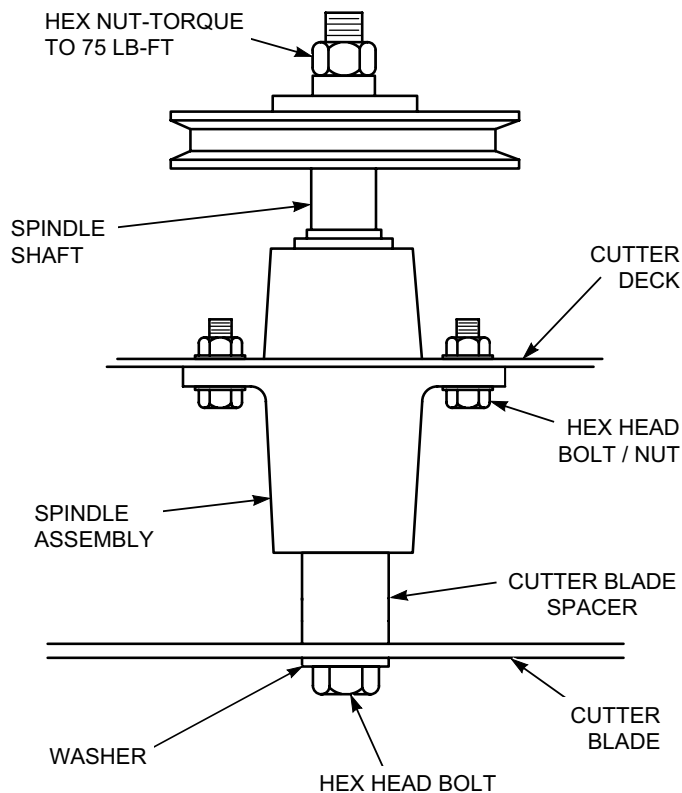

Figure 7-7. Blade Replacement
3. Secure the cutter blades to prevent them from rotating, (use the optional Blade Buddy tool P/N 9212, to assist in securing the cutter blades), remove the nut from the blade attaching bolt. Remove the cutter blade, bolt and spacer from the spindle shaft. See Figure 7-7.
- Install the hex nut to the blade bolt at the top of the cutter spindle. Secure the blades from rotating and torque to 75 ft/lbs. See Figure 7-7.